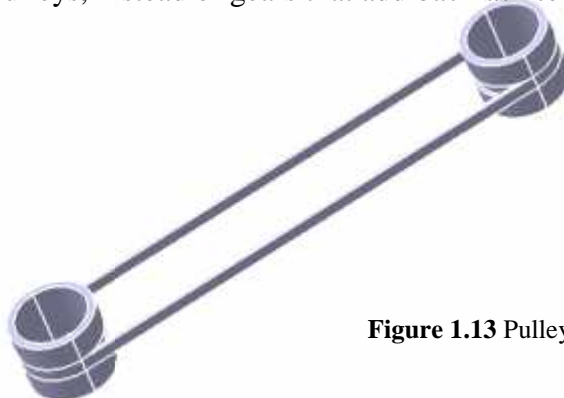

Figure 1.13 Pulleys and non-slip Belt
- *Pulleys and Non-Slip Belt*: The wheels are driven through a belt connected to pulleys. This will prevent the slipping between the wheels and the belt, through using non-slip belt, and using pulleys, instead of gears that add backlash to the system (see Figure 1.13).